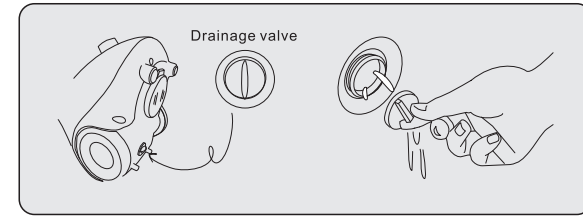

FIGURE 14
1. Unscrew the drainage valve which is at the back of the appliance anticlockwise. Refer to figure 14.